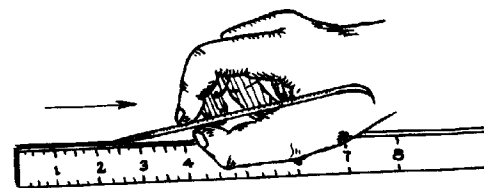

FIG. 4 INCLINING SCRIBER
- Scribe the line by exerting pressure on the scribe and drawing it along the edge of the rule, inclining the top of the scribe slightly in the direction in which it is to be moved. (Fig.4).